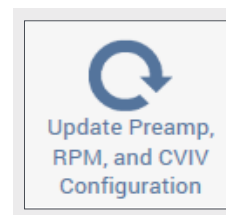

Figure 5. Update RPM configuration in KCON.
4. Select "Update Preamp, RPM and CVIV Configuration" (see Figure 5.)